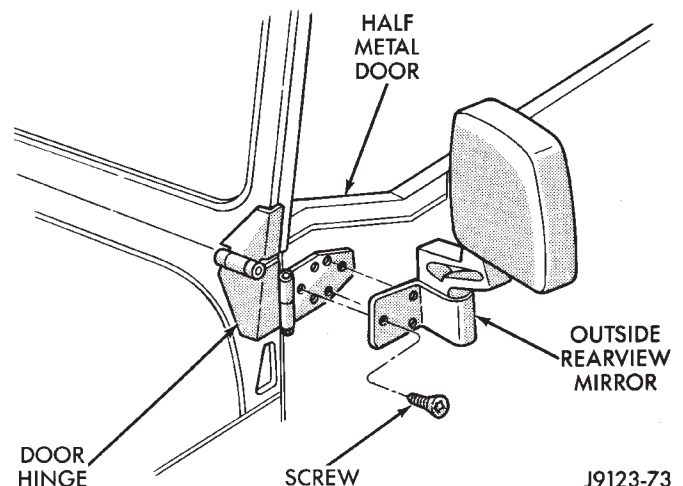

Fig. 78 Half Metal Door Mirror
(1) Remove the mirror base attaching screws from the door hinge (Fig. 78).
(2) Remove the mirror from the door hinge (Fig. 78).
(1) Clean the door hinge-mirror base contact surface.
(2) Position the mirror base at the door hinge (Fig. 78).
(3) Install the mirror base attaching screws in the door hinge (Fig. 78). Tighten the attaching screws to 11 N·m (96 in-lbs) torque.